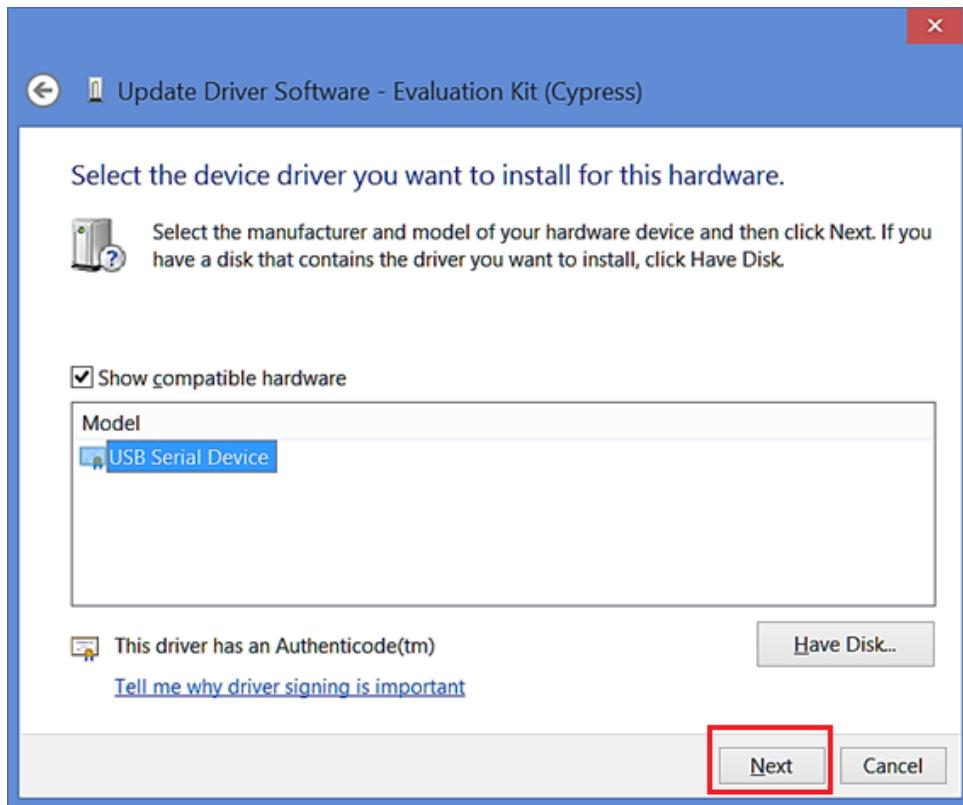

Figure 20: Update Driver Software – 6
8. Then choose “Browse” (Figure 19) and find the downloaded inf file and then select “OK”. You will be returned to an older pop-up window where you should select “Next” (Figure 20)